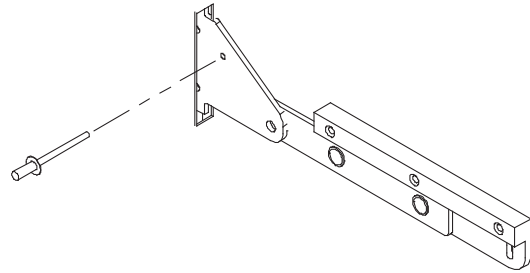

Figure 27: Insert Rivet/Screw/Nail to Keep Hinge Open
2. Open the oven door to its full open position and insert rivets, screws, or nails as shown in Figure 27 to hold the hinges in the open position.